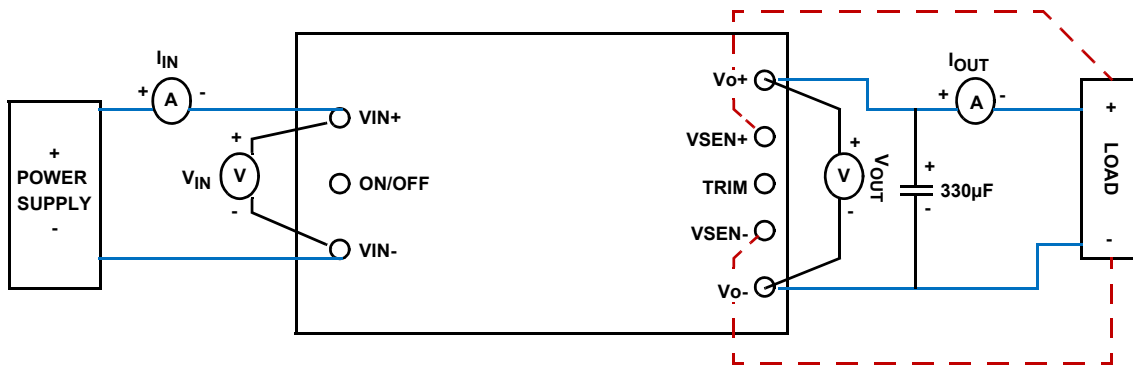

FIGURE 2. CONNECTION DIAGRAM
Using short twisted pair leads for any power connections and with all loads and power supplies off, refer to Figure 2 for the proper measurement and equipment setup. The Power Supply (PS) should not be connected to the circuit until instructed to do so in the following procedure.
2. Connect the power supply; electronic load; voltmeters and ammeters like Figure 2 shows while keeping the power supply and load power off. For accurate sense voltage, remote sense is required, solder the wire between VSEN+/VSEN- and the load as shown in Figure 2. Also, remote sense could be left open since accuracy here is not important.